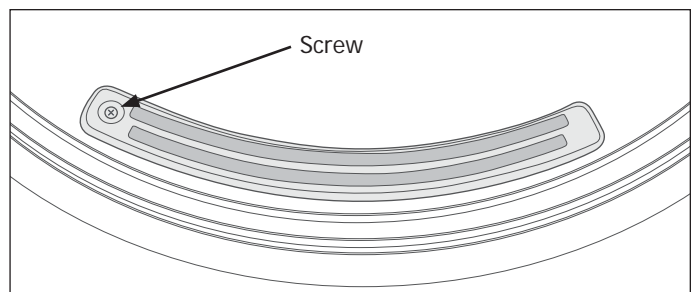

Figure 4-25.
3. From inside the drying compartment, extract the #2 square bit screw securing the moisture sensing bars to the back wall. (See Figure 4-25)